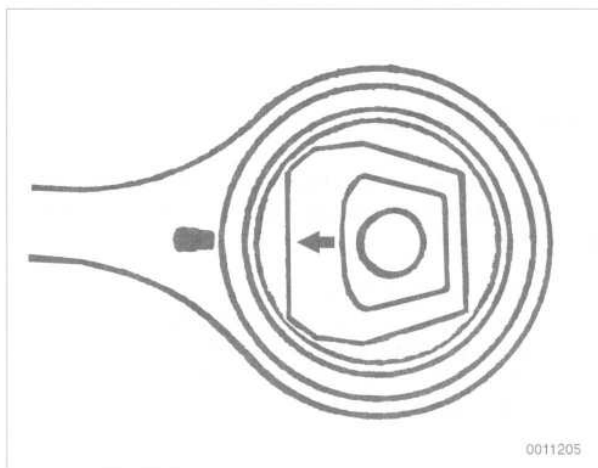

Fig. 16. Align arrow on bushing with mark on thrust arm when installing bushing.
4. Clean the bushing bore and press in the new bushing while aligning the arrow on the bushing with the mark on the thrust arm. See Fig. 16. Press the bushing in so it protrudes equally from both sides of the thrust arm.